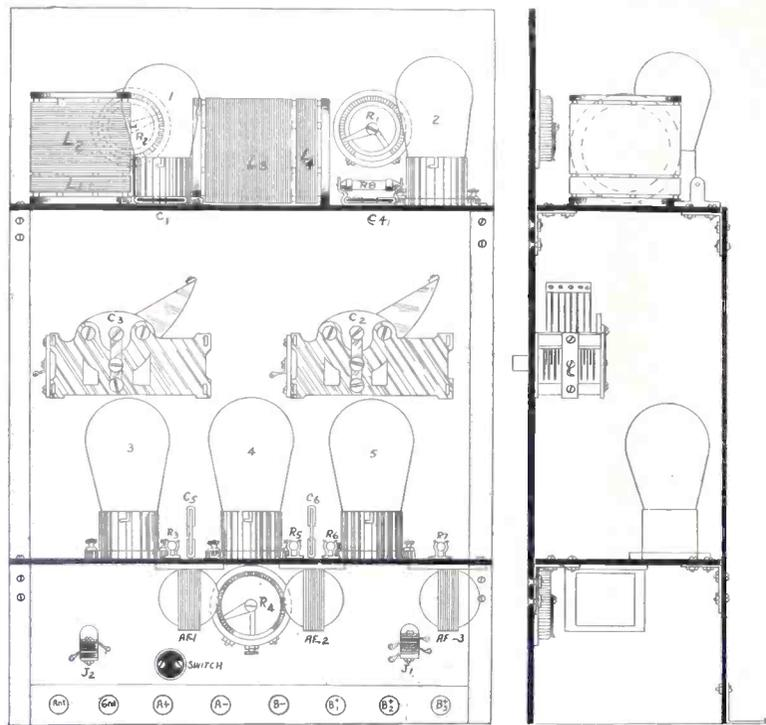

FIG. 3, showing how the back of the set appears. Note the side view on the right of the large drawing.
jacks, the switch and the angle irons have found their places. Here are the drawings for the interior of the set. Fig. 3 is the diagram Bill referred to. The shelf that the sockets, 1 and 2, the coils, L1, L2, L3, L4, the grid leak and condenser, and the fixed condensers, C1 and C7, are placed on, is 11" long and  $2\frac{1}{2}$ " wide. Socket 2 is placed  $2\frac{1}{4}$ " from the right-
**C3, BETWEEN** the end of L3 and the A minus lead, to lower right of the second tube, is used as a bypass. C5 is also a bypass condenser in its conventional position on a reflex set, across the secondary of the first AFT (lower left). Bypass condensers should be no larger than necessary. (Fig. 3.)
The dotted line condenser in Fig. 1 is used to by-pass the radio frequency current across both the headset and the plate battery. C3 in Fig. 3 and C4 in Fig. 4 are used similarly.
In reflex sets like that shown in Fig. 3 by-pass condensers are used profusely